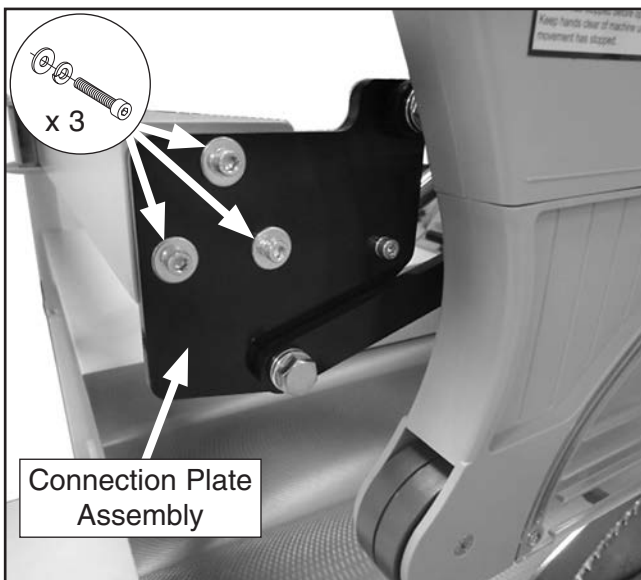

Figure 58. Connection plate assembly attached to upper support arm.
58. Attach connection plate assembly to end of upper support arm, using (3) M6-1 x 20 cap screws, (3) 6mm lock washers, and (3) 6mm fender washers (see **Figure 58**).